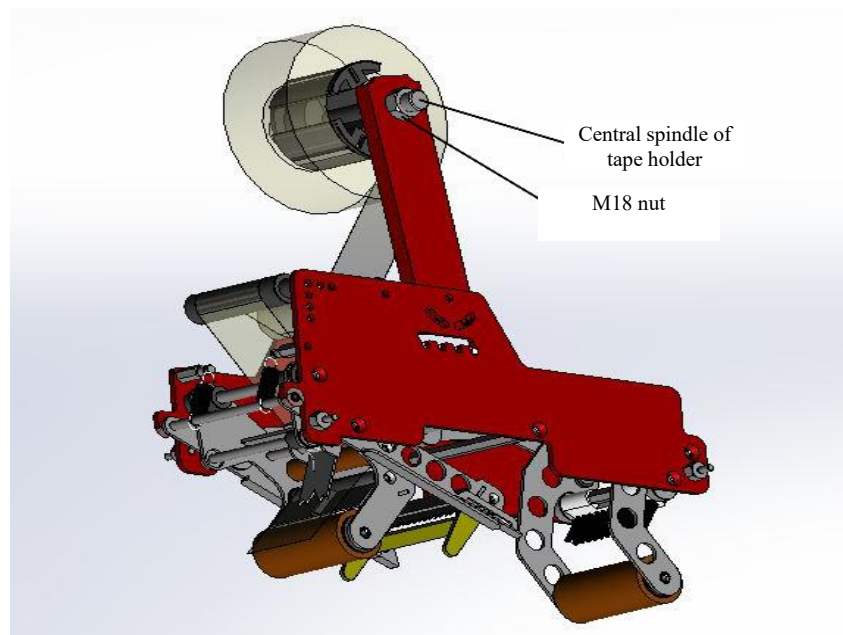

Figure 10
3.8 Tape location adjustment, as shown in Figure 10:	- 11 -
3.8 Tape location adjustment, as shown in Figure 10: